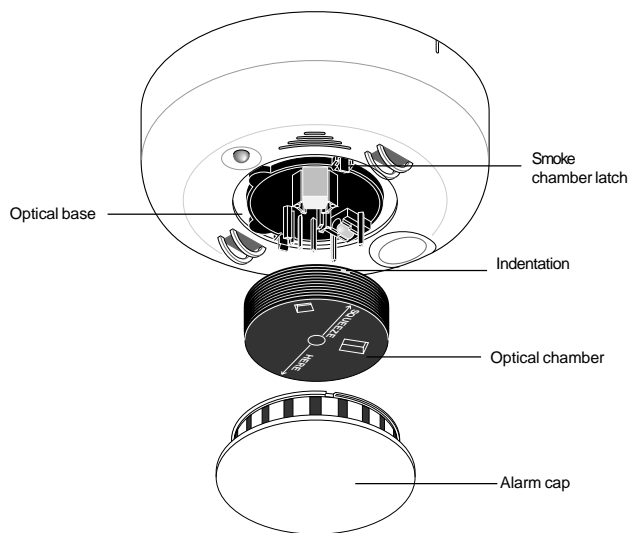

Figure 5. Alarm Parts
5. Press in on the sides of the field replaceable optical chamber and pull it up and away from the optical base and discard. See Figure 5.